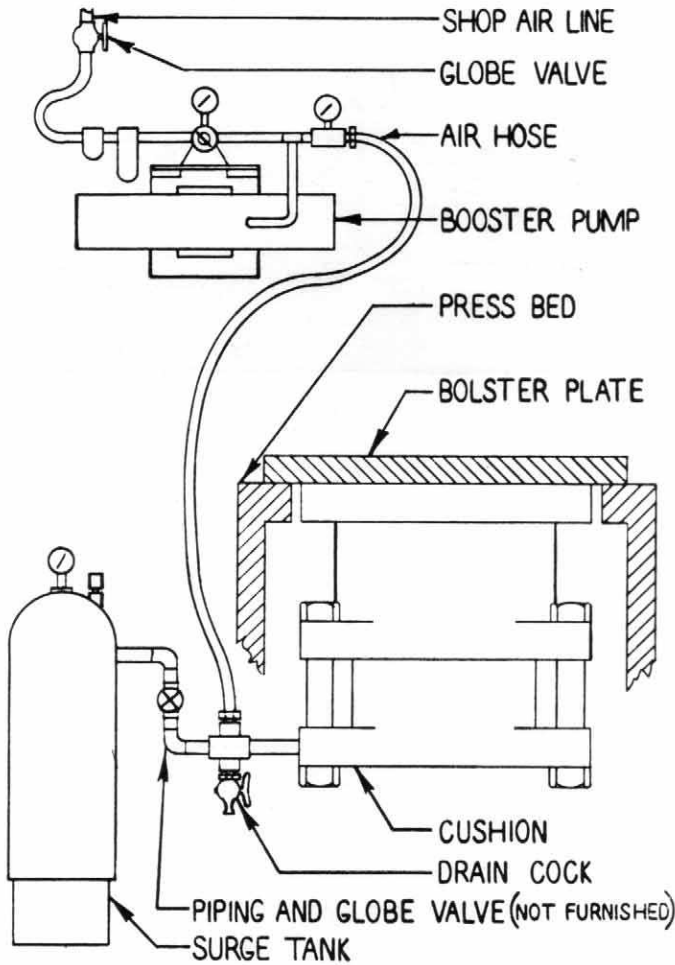

Fig. No. 33
(3) Recommended method for piping pump into a pneumatic Model "H" die cushion is shown in Fig. No. 33. If excessive moisture is present in air line, a water trap should be provided between the shop air line connection and filter. (See Fig. No. 36.)
(4) Before running pump, **fill lubricator with Texaco Regal A-R & O (viscosity SAE 10) or equivalent. Adjust lubricator** so that when pump is operating approximately **one drop of oil** enters air stream **every 3 or 4 strokes** of pump. The drops are observed through sight tube on lubricator. **Check and fill lubricator periodically.**